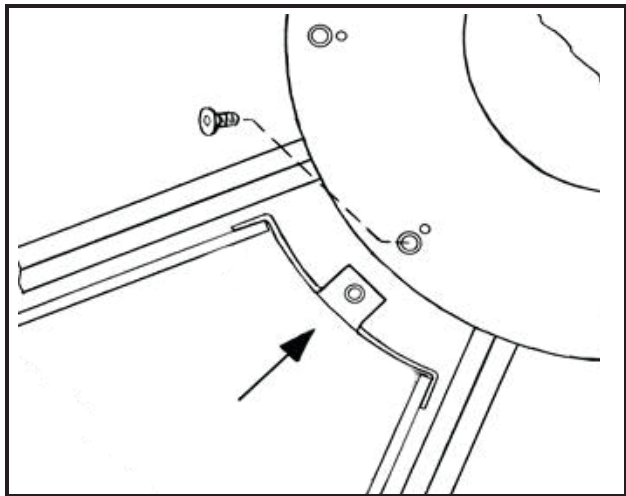

Fig. 34 — Nose to Hub Plate (ERC 81-86 ONLY includes screw)
5. For ERC-81 and ERC 86, use a 3/16 in. Allen wrench to remove the nose bolt securing the segment to the hub plate. See Fig. 34 for example to remove the nose bolt.
3. From the pulley side, slide segment into place nose first, then push outer portion of segment in to wheel frame. If you are installing an ERC-81 or ERC-86, use a 3/16 in. Allen wrench and the nose bolt to secure the segment to the hub. See Fig. 34 for segment placement.